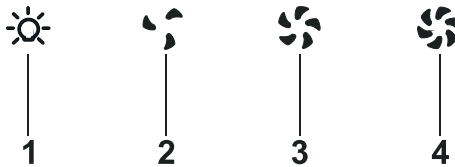

Fig. 19
Press the lamp button to turn on the appliance lamp (Fig. 19).
- 1. and 2 speed buttons simultaneously, the automatic mode can be activated and deactivated. Automatic mode display and manual mode display will be in 2 second intervals (Fig. 19).
- To turn off the fume sensor press the buttons (Fig. 19 / 2- 3) simultaneously for 3 seconds.